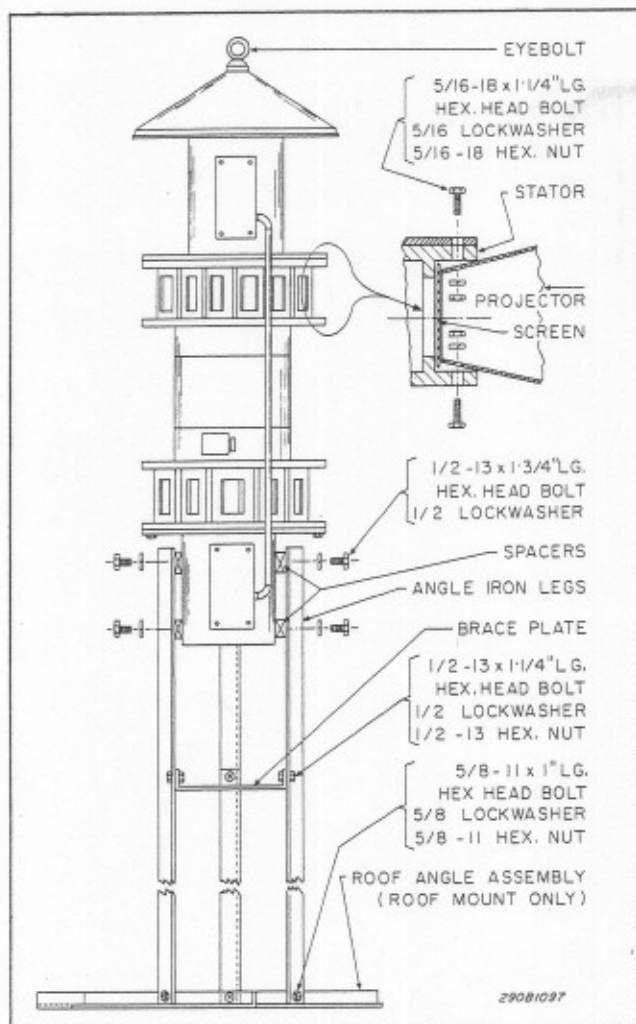

Figure 3-2. 2T22 and 3T22 Assembly.
1. Install all screens and horns on the two stators, as indicated in figure 3-2. Use two 5/16"-18 x 1/4" hex head bolts, 5/16" lockwashers, and 5/16" - 18" hex nuts (all provided) to attach each horn and screen to the stators. Install one horn and screen at each stator port. When installing the horns, make sure that the seam in each faces down. This reduces the chance of water entering the seam and causing corrosion of the horn. There are 22 identical horns and screens; 12 for the top stator and 10 for the bottom stator.
3. Install the three legs and six spacers on the lower Intake Tube Assembly as shown in figure 3-2. Use two 1/2" - 13 x 1-3/4" hex head bolts and 1/2" lockwashers (provided) for each leg. Do not tighten the bolts completely.
2. Install all screens and horns on the two stators as indicated in figure 3-2. Use two 5/16" - 18 x 1/4" hex head bolts 5/16" lockwashers and 5/16" - 18 hex nuts (all provided) to attach each horn and screen to the stators.